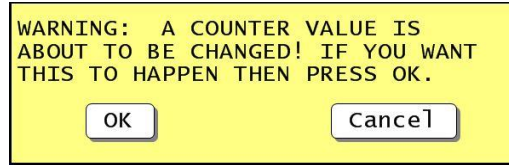

Figure 5-14. Change Count Confirmation Window
2. Key in a new value, following the directions in the window, and press ENTER. The window shown in Figure 5-14 displays, asking you to confirm that you want to change the COUNT value.
2. Press the CLEAR key. The Change Count Confirmation window displays, Figure 5-14, asking you to confirm that you want to change the COUNT value.
3. Press the Up (▲) cursor key to proceed with the Change Count process and clear the Total Hits count. The value in the COUNT column for TOTAL HITS is reset to zero (0).